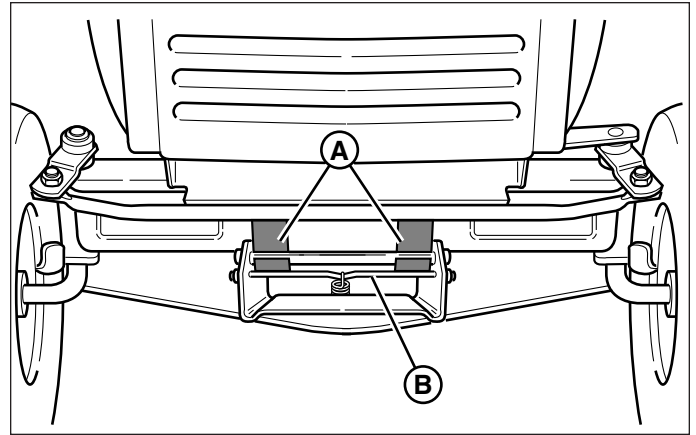

Figure 12. Mower Hitch
6. Turn wheels straight ahead. Pull back on spring-loaded lever (B, Figure 12) and lift mower hitch off of the tractor brackets.
5. See Figure 12. Turn wheels straight. Pull back on the spring-loaded lever (B) while lifting up on the mower hitch. Install mower hitch onto tractor hitch brackets (A). When properly installed, the spring-loaded lever should seat fully underneath the brackets.